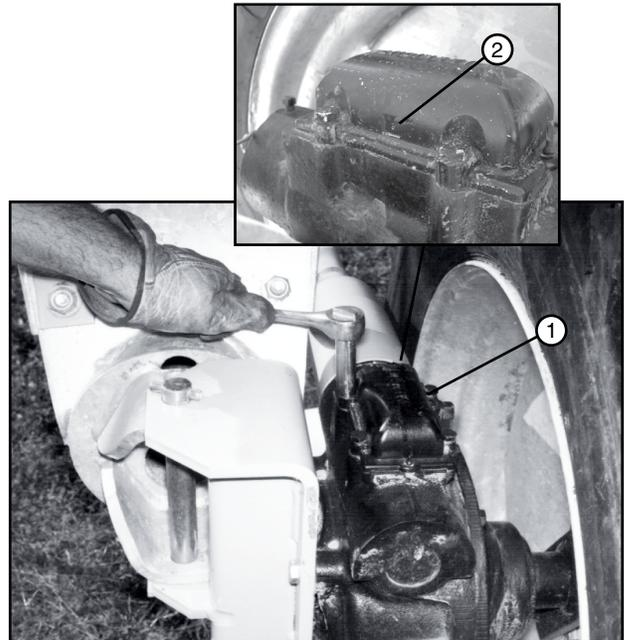

Figure 47-2 1. Expansion Chamber Cap
3. Clean all of the dirt away from the expansion chamber cap and remove the expansion chamber cap. Do not allow dirt to fall into the gearbox when removing the cap. See figure 47-2.